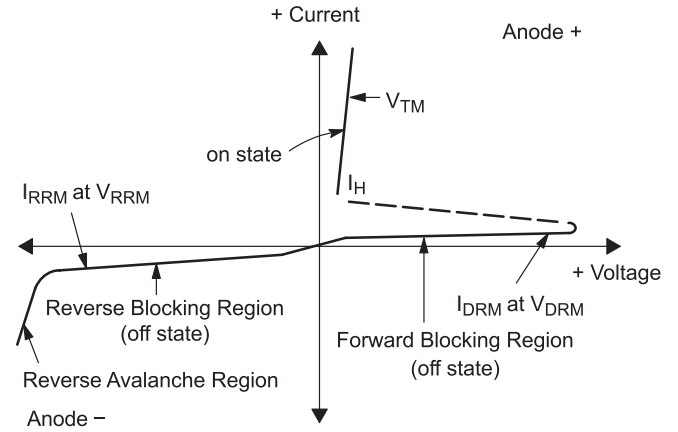

Figure 1. Typical RMS Current Derating
2. Ratings apply for $t_w = 1$ ms. See Figure 1 for ITM capability for various duration of an exponentially decaying current waveform, t_w is defined as 5 time constants of an exponentially decaying current pulse.
5. Ratings apply for $t_w = 1\text{ ms}$. See Figure 1 for I_{TM} capability for various durations of an exponentially decaying current waveform. t_w is defined as 5 time constants of an exponentially decaying current pulse.